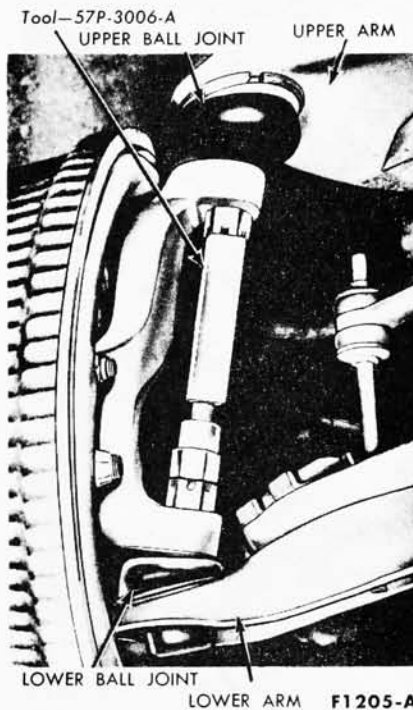

FIG. 3—Loosening Ball Joint Stud
4. Remove the cotter pin and loosen the upper ball joint stud nut. Place a box wrench over the lower end of tool T57P-3006-A, and position the tool as shown in Fig. 3. **The tool should seat firmly against the ends of both studs, and not against the lower stud nut.** It may be necessary to remove the cotter pin from the lower ball joint stud if the cotter pin prevents the tool from seating on the lower stud.
6. Position a box wrench over the lower end of the tool T57P-3006-A and position the tool as shown in Fig. 3. **The tool should seat firmly**